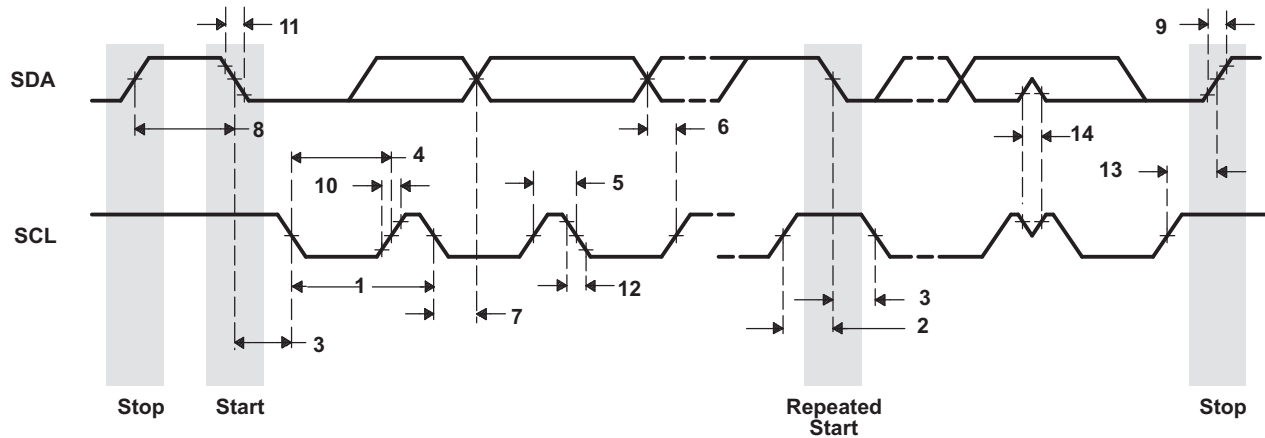

Figure 6-22. I2C Receive Timings
**Table 6-22. Timing Requirements for I2C Timings(1) (see Figure 6-22)**